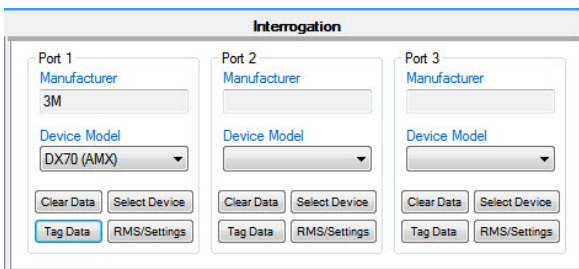

FIG. 50 Interrogation options
2. Click **Interrogation**. The Device Interrogation options appear (FIG. 50).